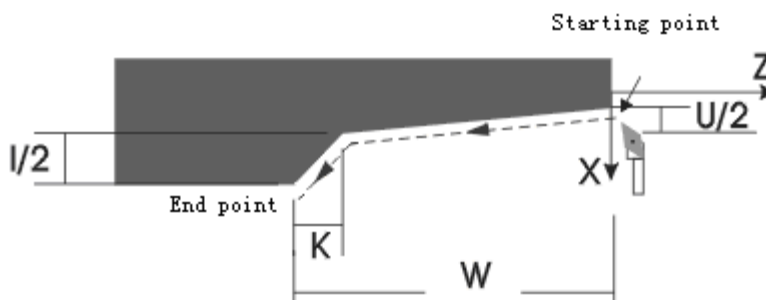

Fig. 4-11
3) G33 axial taper thread: as Fig. 4-11